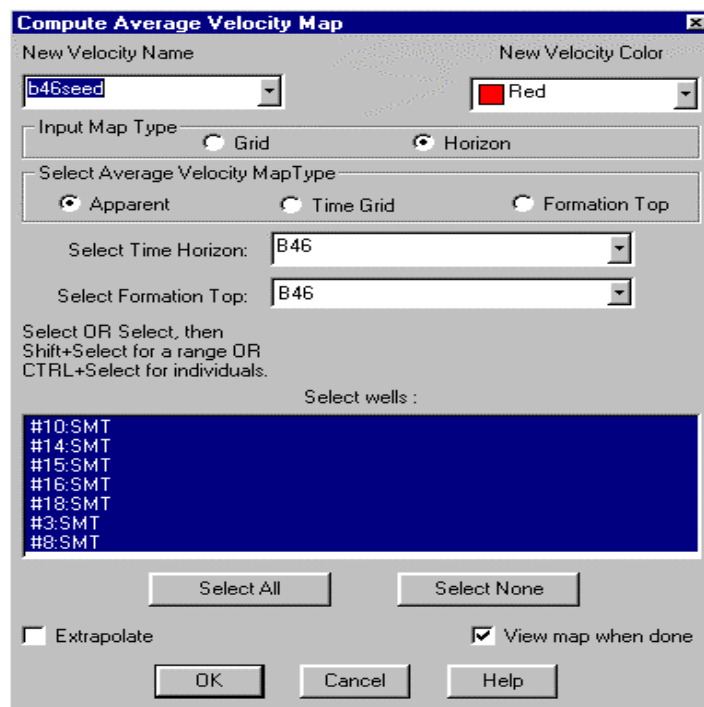
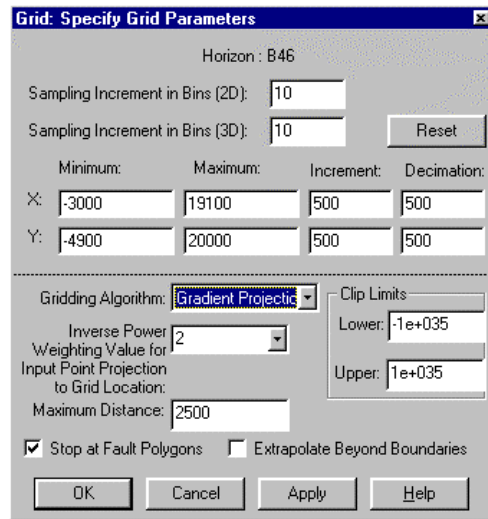

Figure 17: Method used to compute the *Average Velocity Map* of a selected horizon is selected in this menu
Figure 18: Gridding parameters selections menu.
39. To **create a depth map**, select *Tools* from the main Menu Bar and then *Depth* from the drop down list. Under *Depth* there are several selections. Click on *Compute Average Velocity Map*. For *Type*, select *Horizon*. The program computes the average velocity at each well using one of three options (*Apparent*, *Time Grid* or *Formation Top*) (Figure 17).
- 1) The **Apparent** method uses the horizon time and formation top depth. You must provide a velocity file name (Figure 17) and gridding parameters can be tailored to individual needs (Figure 18). Time and depth pairs are then combined to form an average velocity grid.